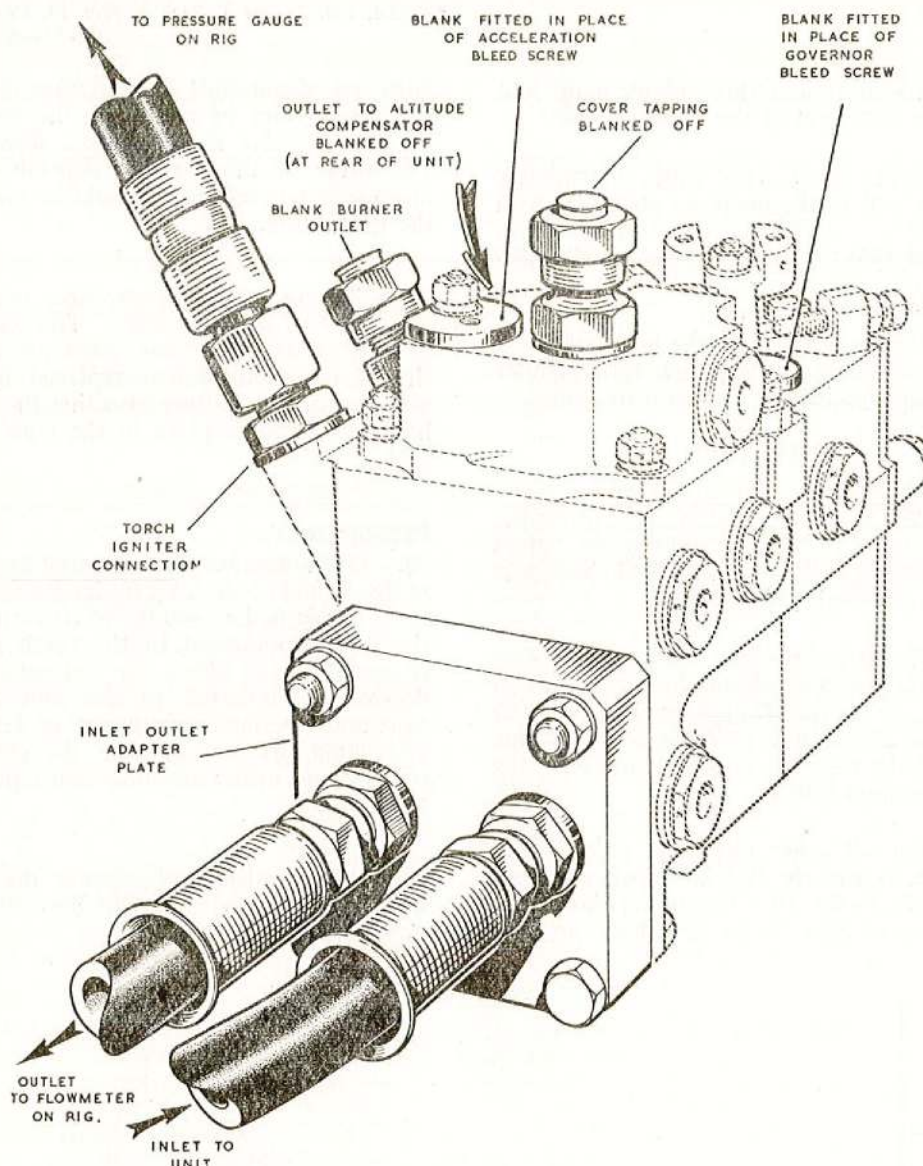

Fig. 12. Pressure test fittings (RSK.373)
If the unit is to be rig tested, fit the blank RSK.373 (fig. 12) in place of the built-up governor bleed assembly.
78. The rig inlet by-pass valve must be closed for all governor tests. The acceleration bleed and governor bleed assemblies should be removed and replaced by the blanks, fig. 12. Ensure also that the blank has been fitted in place of the relief valve seat.
79. Fit the test fittings to the unit as shown in fig. 12 and connect up to the pressure test rig. Apply fuel at 400 lb/in² (indicated on the gauge connected to the torch igniter connection) and check for leakage on the flowmeter connected to the unit outlet. Maximum permissible leakage is 1.5 g/h. If beyond the limit, replace the governor plunger and orifice assembly and repeat the test.